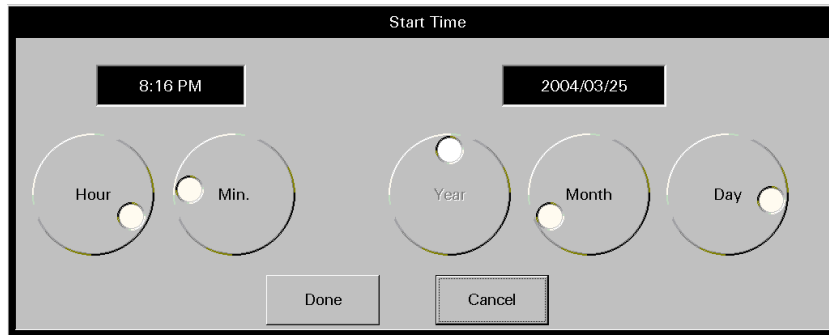

FIGURE 7-15 Start Time Dialog Box
1. Select the Start Time text box. The Start Time dialog box (shown in FIGURE 7-15) is displayed.